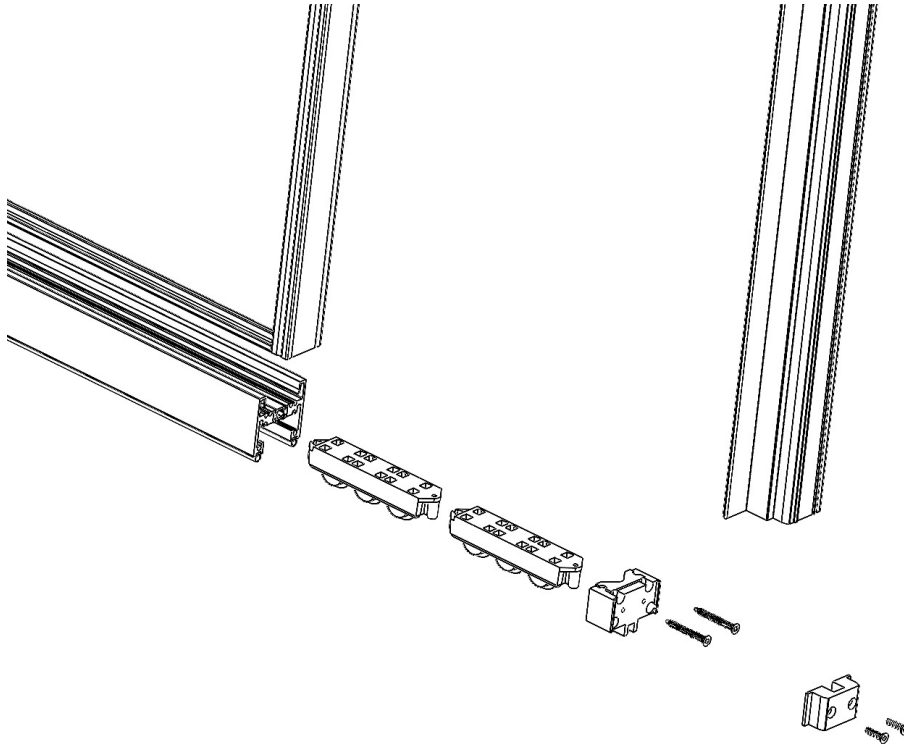

Figure 15
**Note: If you are installing a bi-parting door, you will have one (1) active lead panel and one inactive lead panel. The inactive lead panels are to be installed on the innermost track. The active lead panel will be installed to the left of center, as viewed from the exterior of the building. Fixed panels have one (1) interlock, no rollers, and rest on the outermost track. Intermediate panels will have two (2) interlock stiles.**
**Ex: A 4' wide panel may take four (4) roller assemblies; two (2) per side. A 5' wide panel may take six (6) roller assemblies; three (3) per side and so on.**
5. Determine the number of roller assemblies needed per panel and connect by sliding one (1) roller assembly onto the other. Continue this process for all required rollers. Once complete, slide the end sweep onto the roller assembly and set roller assemblies in front of panel.
6. Taking care not to scratch or shift the lead panel over. With a pry bar, lift the panel high enough to slide the roller assembly system into place. Ensure that all rollers rest onto the track cap and roll freely. (See Figure 15).